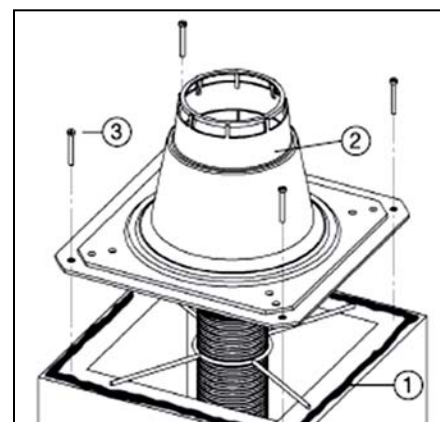

Figure 12 – Installing the Weather Collar
17. Seal the edge of the chimney or chase shaft with water-resistant sealant (see Fig. 12, 1) and push the weather collar (2) on the shaft. Fix the collar with four screws (3).